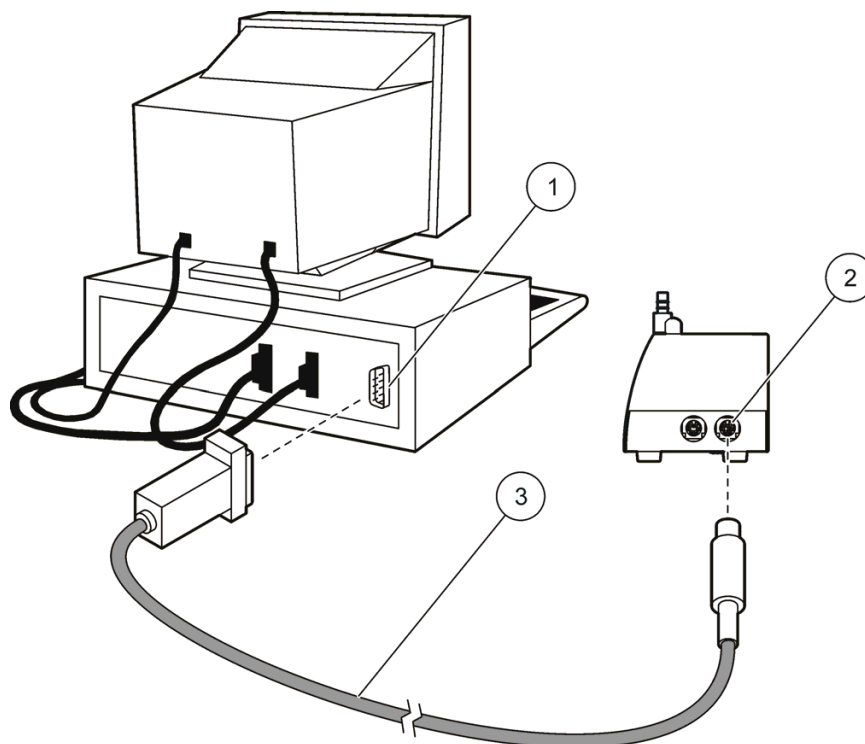

Figure 20 Particle counter connection to PC
3. Connect the particle counter to the PC as shown in Figure 20.